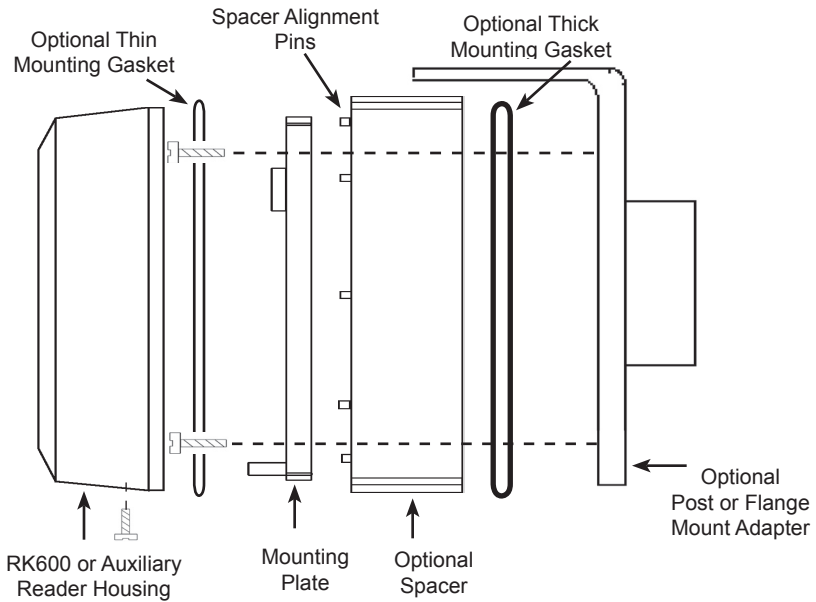

Figure 6 - Post/Flange Mounting
- c. If using the optional spacer, install the thick gasket between the spacer and the mounting surface, install the mounting plate and spacer using the two 6-32 x 1-1/2" screws supplied with the spacer, then place the thin gasket around the mounting plate (Figure 6).